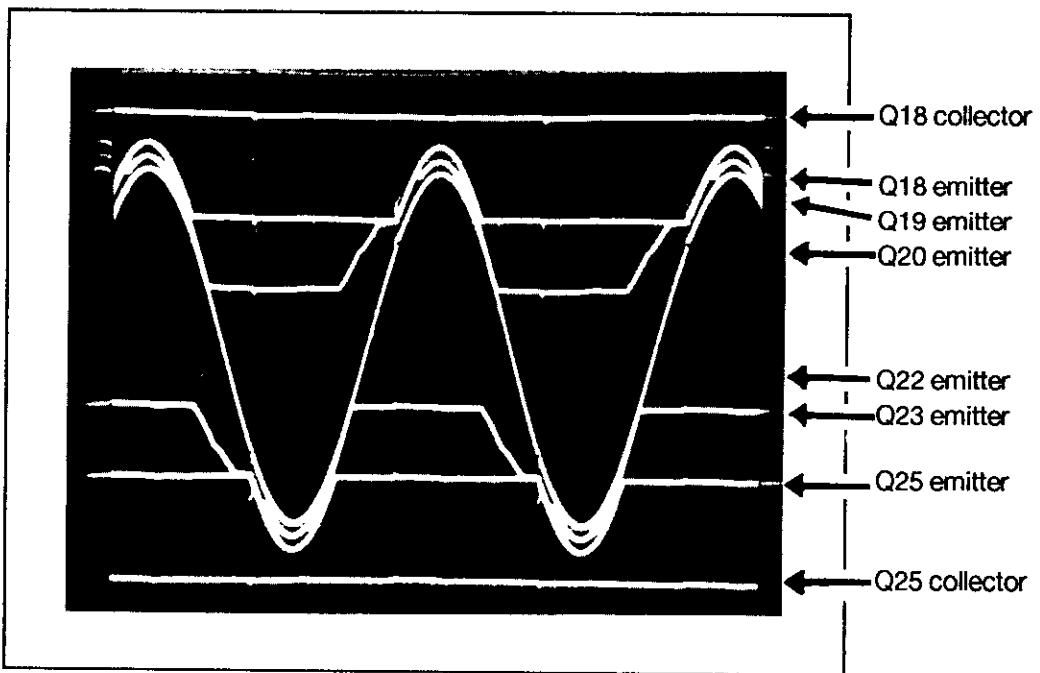

Figure 4: Commutators
- E) Increase amplifier output to 54.8 Vrms (375W/8 ohms). Left and right channel commutators should appear as in Figure 4 at 2kHz.